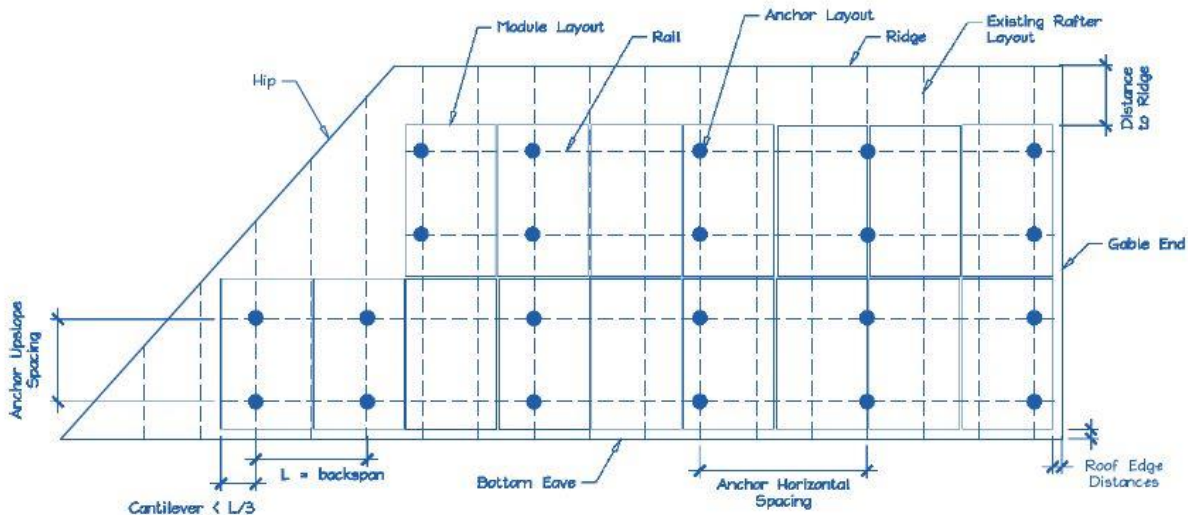

Figure 2. Sample Solar Panel Array and Anchor Layout Diagram (Roof Plan).
E. Is a roof plan of the module and anchor layout attached? (see Figure 2)
- 1) Proposed anchor horizontal spacing (see Figure 2): _____' ft - _____"in
1. Anchors are also known as "stand-offs," "feet," "mounts" or "points of attachment." Horizontal anchor spacing is also known as "cross-slope" or "east-west" anchor spacing (see Figure 2).